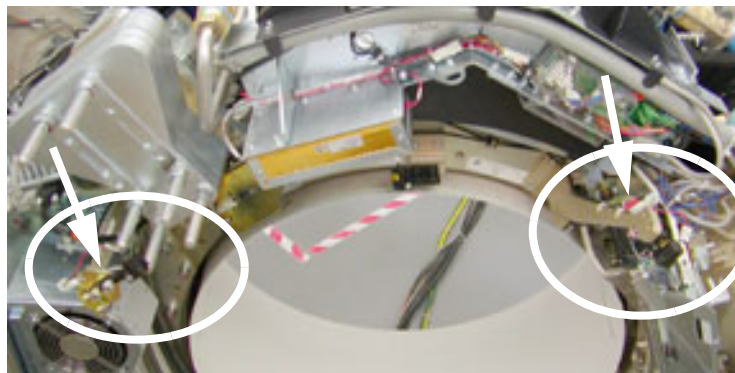

Figure 5-30 Two External Lasers
- a.) Rotate gantry by hand until the laser bracket nearest the 107deg weight stack is accessible. Figure 5-30 below shows the two external laser light brackets with the front cover off for reference.